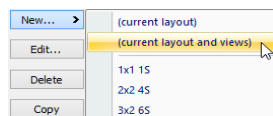

Figure 194 – Current layout and views item
3. Select the **(current layout and views)** item in the displayed menu (see Figure 194).